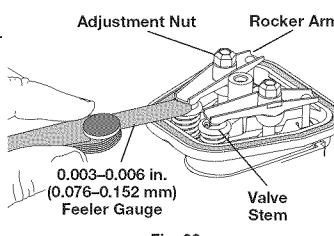

Fig. 22
6. Slide the feeler gauge between the rocker arm and the valve return spring. Measure the clearance between the valve stem and rocker arm (Fig. 22). Measure both the intake and exhaust valves.
The recommended clearance for both intake and exhaust is .003 - .006 in. (.076 - 0.152 mm). Use a standard automotive .005 in. (0.127 mm) feeler gauge. The feeler gauge should slide between the rocker arm and valve stem with a slight amount of resistance, without binding (Fig. 22).
- a. Turn the adjusting nut using a 5/16 inch (8 mm) wrench or nut driver (Fig. 22).